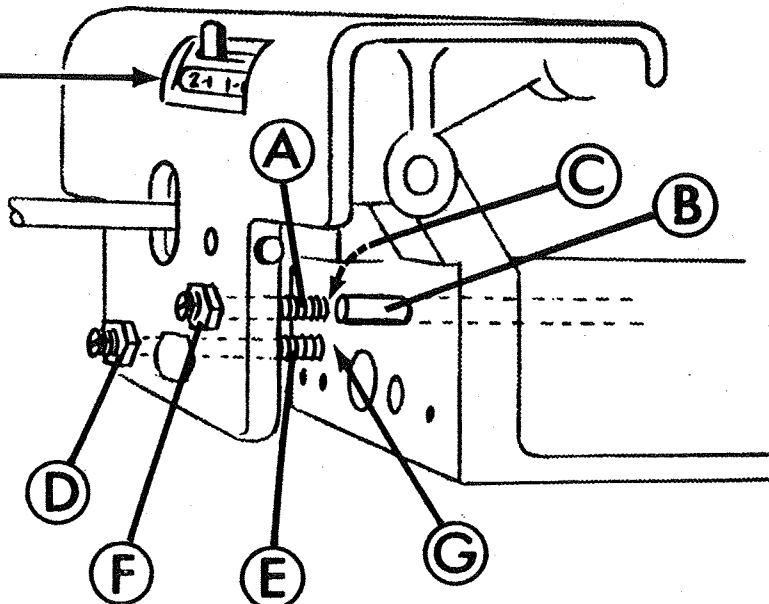

FIG. 5
ON THE SKIP STROKE, stop when the eye of the needle is at the rib (Fig. 1). At this point, the gap between the Compensating Skip Stitch Screw (Fig. 5, A) and the Push Rod (B) should be .018 (C). (In the absence of a gauge, .018 is about 5 times the thickness of average letterhead paper.) This adjustment is made by loosening Lock Nut (F), adjusting screw (A) so gap at (C) is .018. Keep screw in place with screwdriver and secure Lock Nut.
3. Hold Needle at point (D) (Fig. 5) with left thumb and index finger, loosen screw (A) a quarter turn, then push Needle all the way up the Needle Lever (**DO NOT FORCE**) and secure screw (A) firmly.